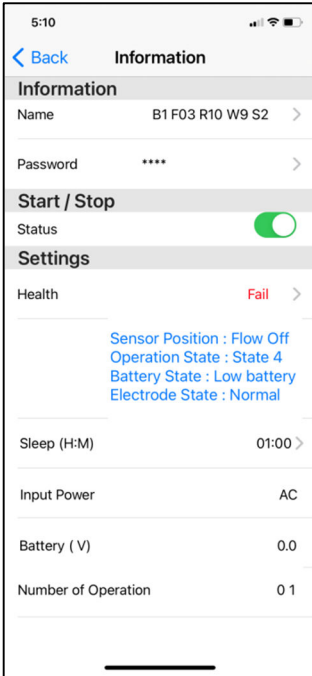

Figure 13: Input Power
Three parameters (input power, battery (V) and number of operation) provide information regarding the source of power (AC, battery, AC + battery) as well as the battery voltage. The number of operations show how many treatment cycles have been performed (this number cannot be changed). See figures 13, 14 or 15 below.